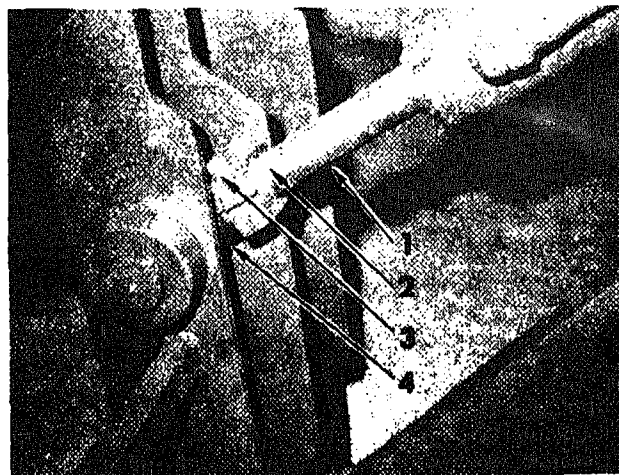

Fig. 7. Fork Cylinder Head
It is extremely important that the fork cylinder rods have exactly the same stroke. The rods are adjusted by loosening the socket bolts (Fig. 7) on the head (4) and rotating the rod by placing a wrench on the rod flat (2). When adjustment is completed, tighten the bolts (3) to 250 lbs. ft. torque.